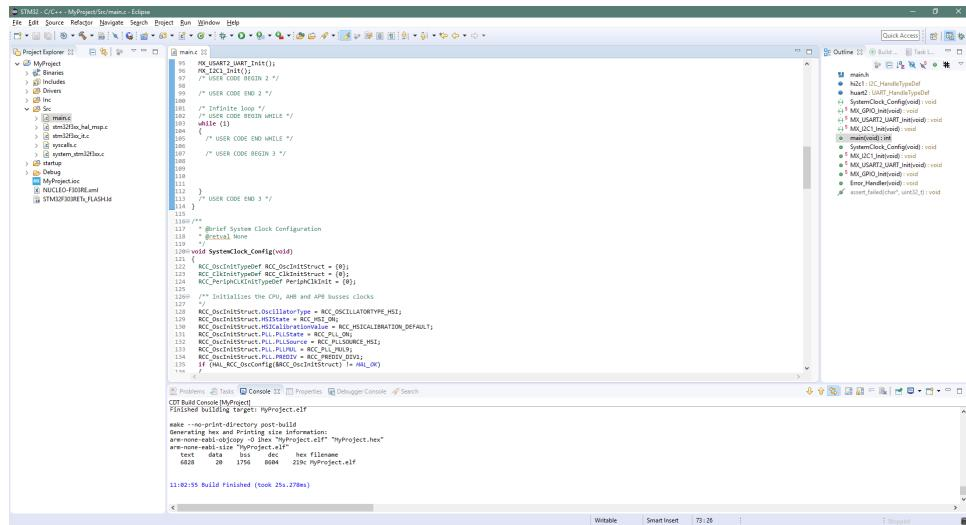

Figure 3.10: Interface of the *AC6* software, centred on the infinite loop.
The *AC6* software opens. **It is important not to delete the lines of codes already present because they were put by *CubeMX* to allow to control the chip according to the configurations indicated during the previous step. You can edit and add your code where the comments tell you.** The body of your code is included in the infinite loop *while (1)* as shown on the fig. 3.10. On the left side of this window is the set of folders grouped under the project name. The *.c* files are in the *Src* folder.